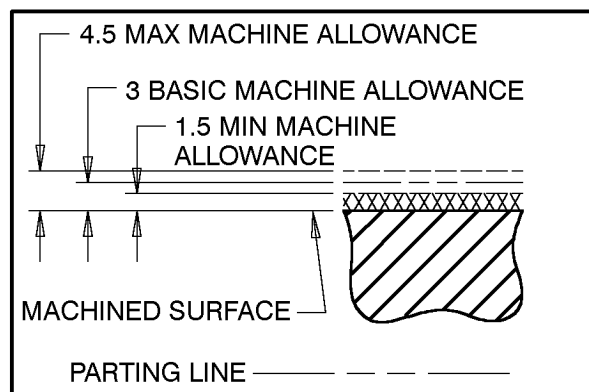

Figure 10 – Machine Allowance - Surface Without Draft
**10.2.3** Figure 10 is a graphic illustration of basic casting or forging profile where surfaces without draft are machined to make the finished part.